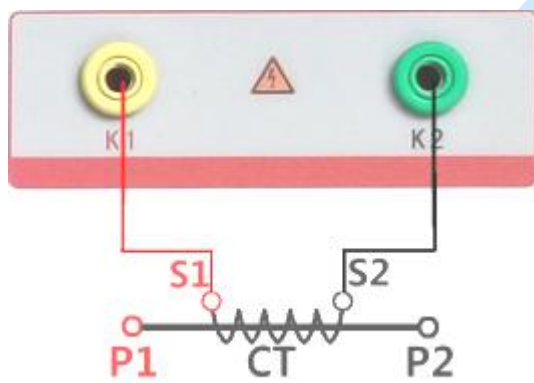

Figure 2
1) CT Excitation Characteristic Test: the connection mode is as shown in Figure 2.